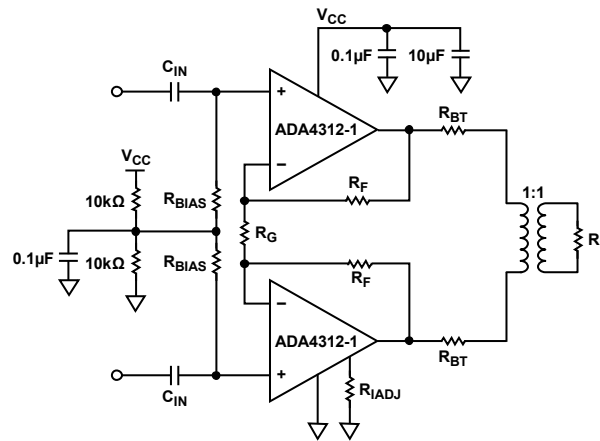
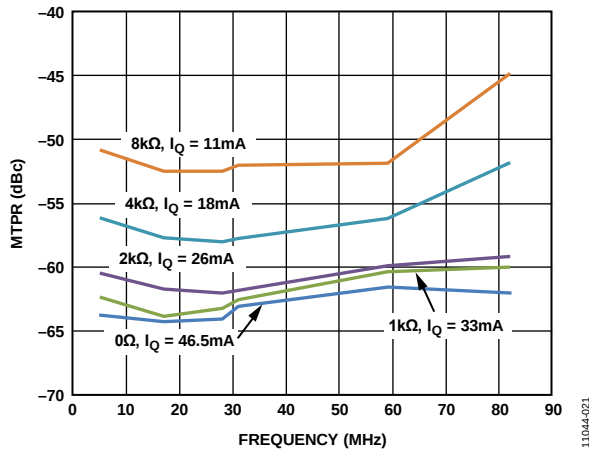

Figure 17. Typical G.hn Application Circuit
Figure 18. MTPR vs. R_{IADJ}
The feedback resistor value has a direct impact on the closed-loop bandwidth of the current feedback amplifiers used in the architecture of the ADA4312-1 differential line driver. Table 5 provides a guideline for the selection of feedback resistor values used in typical differential line driver circuits (refer to Figure 17).
The patented input stage of the core amplifiers is not conducive to operating either core amplifier independently. The ADA4312-1 input stage is designed to operate only in differential applications similar to the circuit shown in Figure 17.
In systems such as G.hn PLC modems, half-duplex or time-division duplex (TDD) systems require the line driver to be switched between transmit mode and high output impedance receive mode. The ADA4312-1 is equipped with a shutdown pin (SD, Pin 9) that stops the line driver from transmitting while switching the outputs to a high output impedance equivalent to 10 kΩ in parallel with $2R_F + R_G$ (see Figure 17). The shutdown (SD) pin is compatible with standard 3.3 V CMOS logic. If the SD pin is left floating, an internal pull-up resistor places the output in a disabled, high output impedance state. SD logic is referred to GND (Pin 4), which should be connected to 0 V.
In single-supply applications such as the one shown in Figure 17, it is necessary to establish a midsupply operating point (V_{MID}). To establish V_{MID} , use two 10 kΩ resistors to form a resistor divider from V_{CC} to ground and a 0.1 μF ceramic chip capacitor for decoupling. Place the V_{MID} decoupling capacitor and the R_{BIAS} resistors as close as possible to the ADA4312-1.
Note that there is a trade-off between the adjusted quiescent current and the linearity (or MTPR) of the transmitted signal. Multitone power ratio (MTPR) was monitored at 5 MHz, 17 MHz, 28 MHz, 31 MHz, 59 MHz, and 82 MHz. Figure 18 can be used to gauge the approximate degradation of MTPR vs. R_{IADJ} and quiescent current while transmitting the G.hn signal across a 40 Ω differential load in the circuit shown in Figure 17.